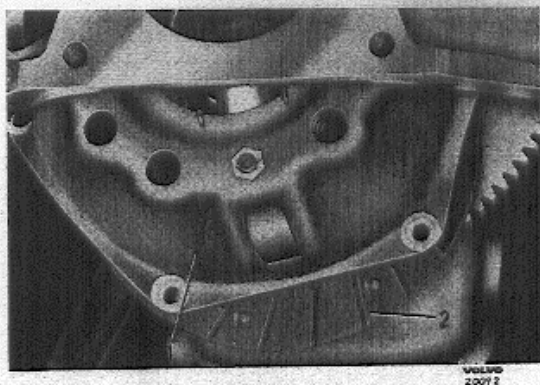

Fig. 7. Removing clutch.
7. Slacken the six clutch casing bolts transversely a little at a time in order to avoid breakage and remove them. Hold up the clutch so that it does not fall to the floor. The clutch and driven plate can now be removed downwards. See fig. 7.